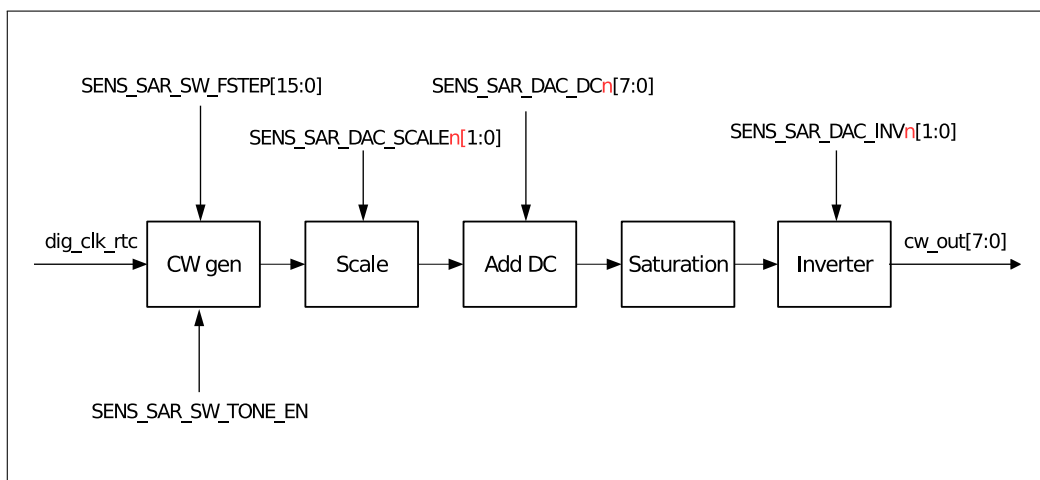

Figure 29-6. Workflow of CW Generator
The cosine wave (CW) generator can be used to generate a cosine or sine tone. Figure 29-6 shows The function of CW generator.